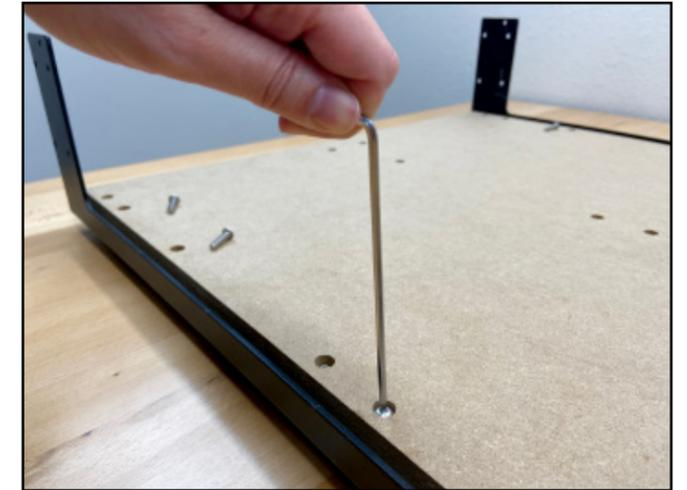

Figure 2-7
3. Use the 3mm hex key and twelve (12) M5x25mm button head cap screws to secure the MDF baseplate to the two endplates, six (6) screws for each endplate. See **Figure 2-7**.